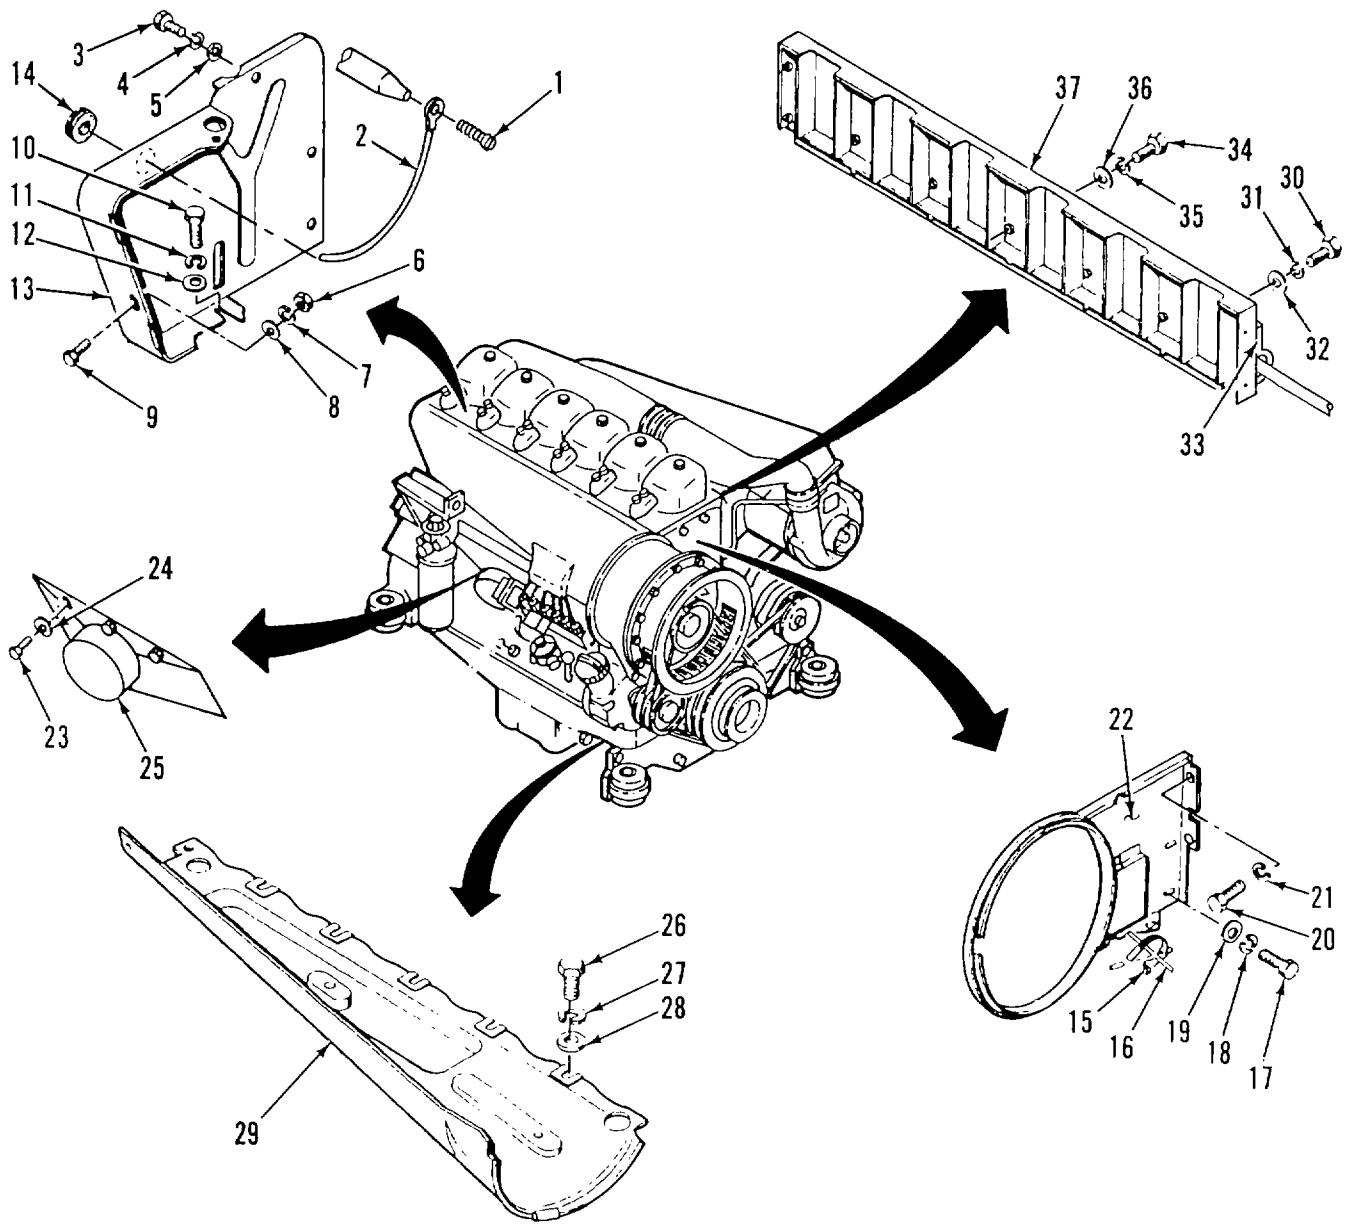

Figure 3-23. Air Cowling and Oil Cooler Discharge Duct
a. REMOVE. (Figure 3-23)
- (1) Disconnect wire lead (2) from No. 1 cylinder head assembly by removing screw (1).
- (2) Remove bolts (3), lockwashers (4), and flat washers (5).
- (3) Remove nut (6), lockwasher (7), flat washer (8), and bolt (9).
- (4) Remove bolt (10), lockwasher (11), flat washer (12), and air duct wall (13).
- (5) Remove wire (2) and grommet (14) from air duct wall (13).
- (6) Cut and remove tie-wrap (15) that secures wire (16) of V-belt warning switch.
- (7) Remove bolts (17), lockwashers (18), and flat washers (19).
- (8) Remove bolt (20), lockwasher (21), and air duct wall (22).
- (9) Remove bolts (23), flat washers (24), and oil cooler discharge duct (25).
- (10) Remove bolts (26), lockwashers (27), flat washers (28), and lower cowling base (29).